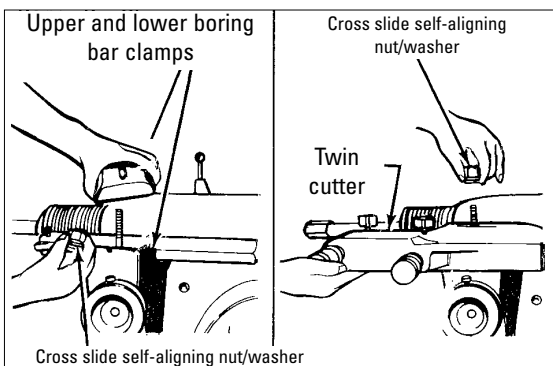

Figure 18 - Install the twin cutter
**1.** Mount the twin cutter on the cross feed with the stud bolt extending through the cast slot (see figure 18). The slot helps center the twin cutter to the rotor.